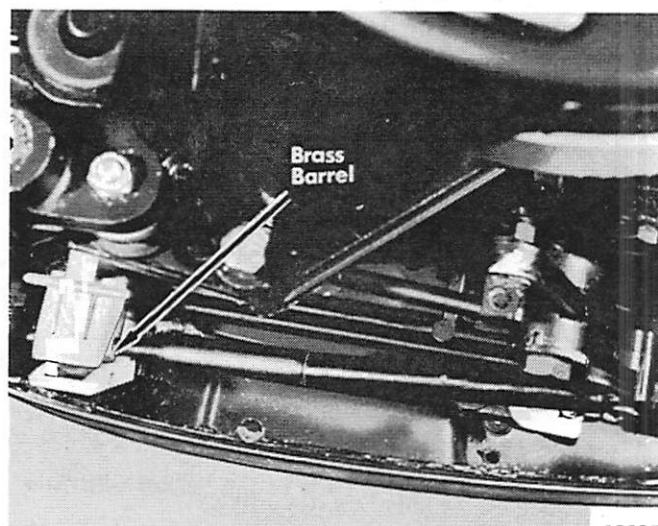

Figure 3. Throttle Cable
2. Place brass barrel in nylon socket. (Figure 3)